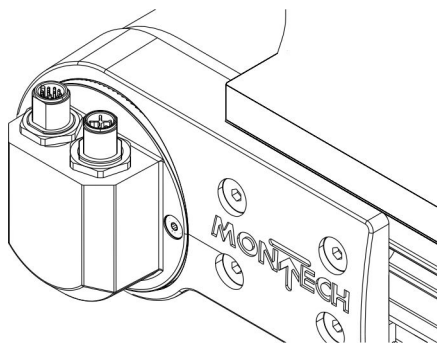

Fig. 29: Cable outlet 90°
2. ➤ Turn the cover cap of the cable outlet until the desired cable outlet position of 90° (Fig. 29) is set.